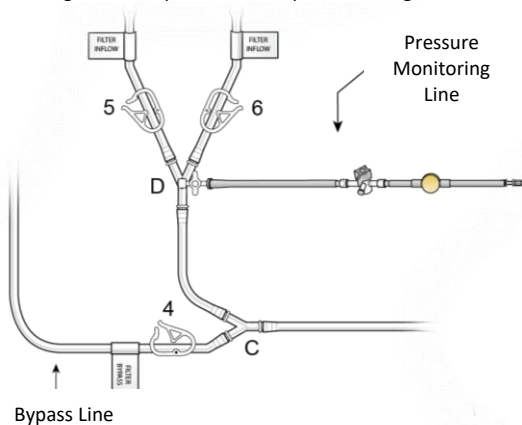

Figure 21
- (b) Attach pre-filter (to measure positive pressure – pre-filter) pressure monitoring line to stopcock “D” and prime, see Figure 21.